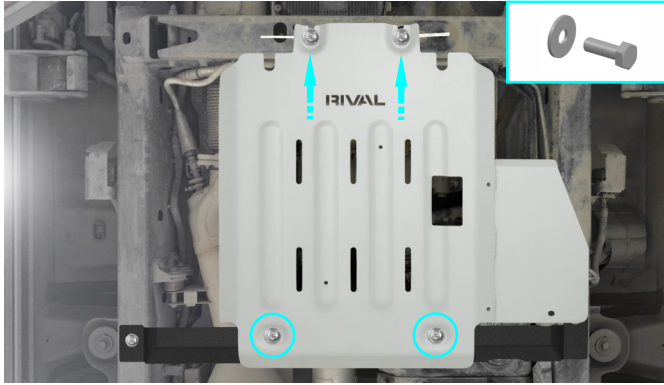

Fig. 7
7. Slide front part of transfer case skid plate (item 1) under previously installed bolts M10x30 from step 6 and secure it using bolts M10x30 with flat washers M10 (items C, E) as shown in fig.7.